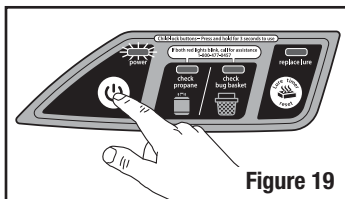

Figure 19
2. Press POWER (⏻), hold 3 seconds until GREEN indicator light blinks (Figure 19). This puts the unit in a cool-down routine which lasts approximately 2 minutes. When the POWER light goes out and the fan shuts down the Mosquito Vacuum is OFF.